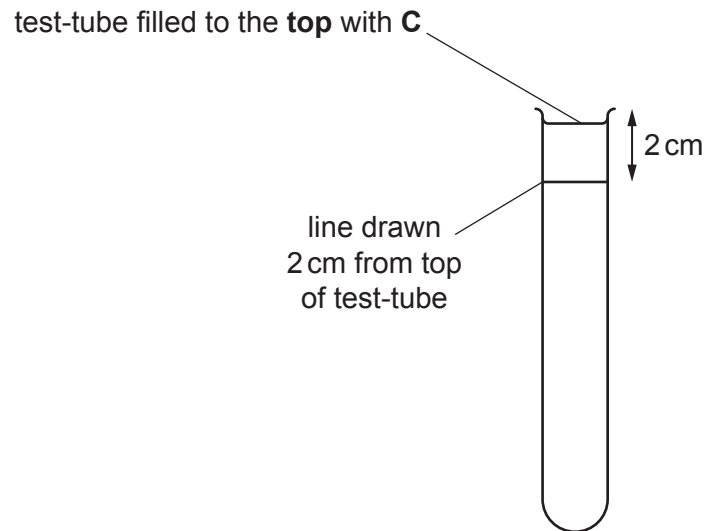

Fig. 1.2
step 5 Draw a line 2 cm from the top of a clean, dry test-tube, as shown in Fig. 1.2. You will start timing from this line in your investigation.
step 6 Fill this test-tube with **C**, up to the top, as shown in Fig. 1.2.